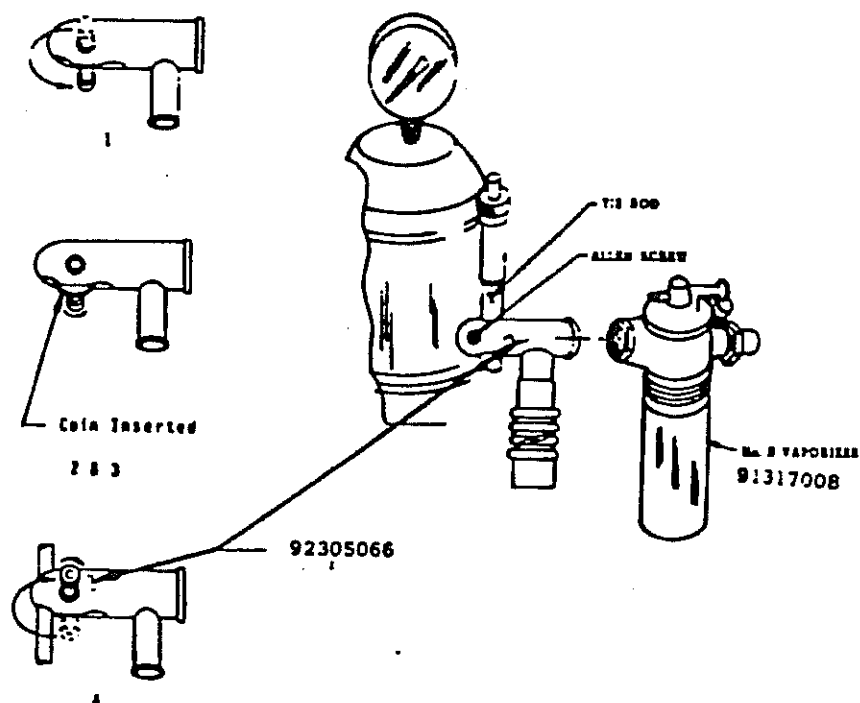

Figure 9 - No. 8 Vaporizer
5. Re-install the Tec Vaporizer to the mounting bracket. This vaporizer can be used with the VMS or VML. The No. 8 Vaporizer can be installed for use with the VMS unit only (see Figure 9).
2. Install the screw into the left side of the adapter and place a coin into the slot to act as a stop (see Figure 9).